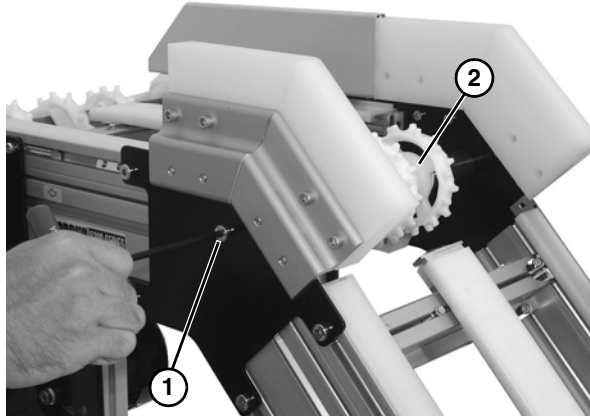

Figure 57
1. Remove socket head cap screw (**Figure 57, item 1**), on each side of upper knuckle assembly, and remove shaft and sprocket assembly (**Figure 57, item 2**).